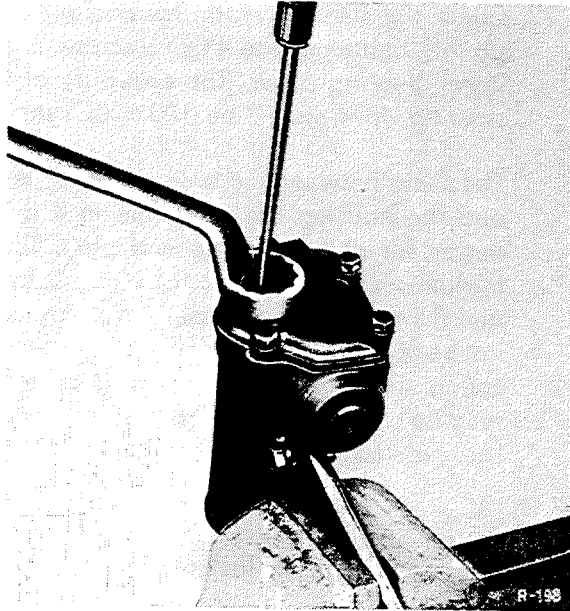

Fig. L 4/26
26. Insert the pressure sleeve (7) together with the compression spring (3) in the cover of the steering housing (with grease) (see Fig. L 4/24). Now screw in the set screw (2) and install the hexagon nut (7) by hand.
27. Back out the screw plug (4) in the housing cover (see Fig. L 4/24) and turn the steering worm so that the center point marked on the steering shaft arm is in the center of the bore in the screw plug.
Then back out the set screw approx. 2 mm (measured at its circumference) and lock the set screw with the hexagonal nut. When doing this, use a screwdriver to hold the set screw steady (Fig. L 4/26).